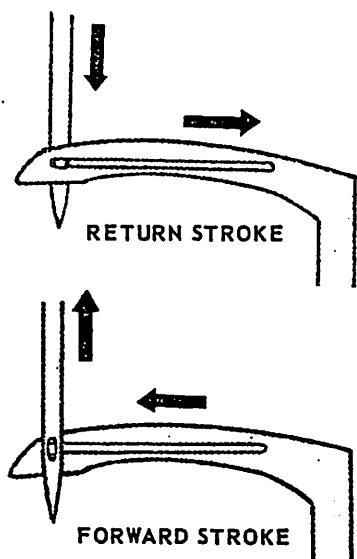
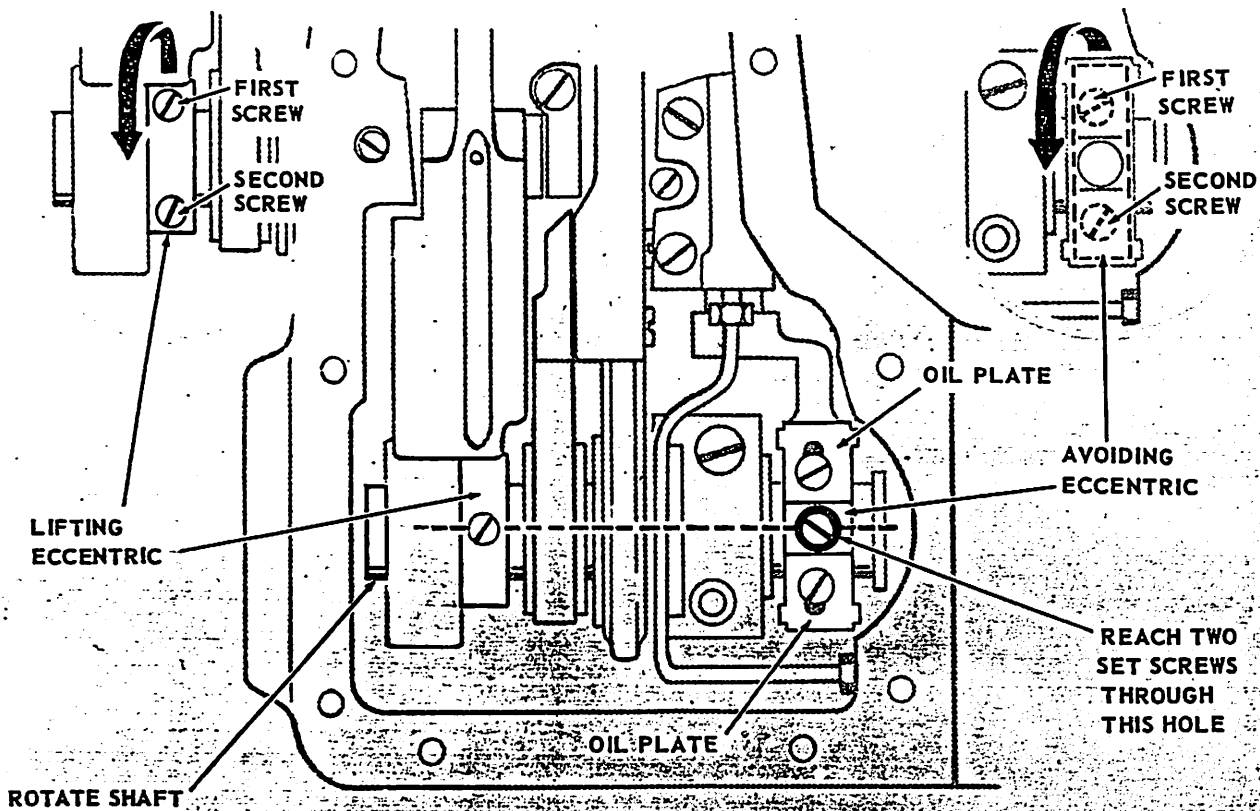

Fig. 20. Aligning Needles and Loopers
Fig. 23. Timing the Avoiding Motion
Remove throat plate and turn machine pulley over toward operator until needle bar reaches its lowest point and begins to rise on FORWARD stroke of looper. Continue turning pulley until center of looper eyes are at center of needles, as shown in Fig. 20.
Looper avoiding motion is produced by avoiding eccentric located at right of feed eccentric on lower arm shaft, as shown in Fig. 23.
Displace the two oil cover plates to expose hole in avoiding eccentric, as shown in Fig. 23.
Turn machine pulley over toward operator until the first of the two set screws IN THE AVOIDING ECCENTRIC, Fig. 23, appears. Loosen this screw approximately 1/4 turn leaving it loose but still below surface of eccentric.
1. Make certain loopers move BEHIND needles on FORWARD LOOPER STROKE and IN FRONT OF needles on RETURN LOOPER STROKE (See Fig. 20) by rotating shaft to align second screw in avoiding eccentric with second screw in lifting eccentric (See insets shown in Fig. 23.) First screw in avoiding eccentric, when visible through hole should line up with first screw in lifting eccentric.